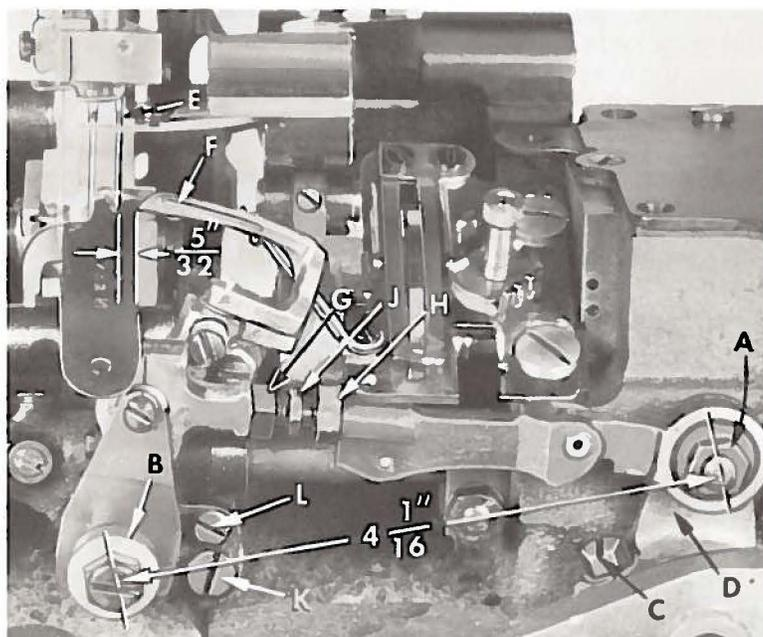

Fig. 6
With the looper at the extreme right end of its travel, check the location of the center line of the right looper connecting rod bearing, using gauge No. 21227 CX. Remove nut (A, Fig. 6) and place hole in gauge over threaded stud.
Insert a new set of needles, type and size as specified. Also insert front looper. The distance from the center of the right needle (E, Fig. 6) to the point of the front looper (F) should be $\frac{5}{32}$ inch, when the looper is at its farthest position to the right. Looper gauge No. 21225-5/32 can be used advantageously to check this setting. If adjustment is required, loosen nut (G, Fig. 6) (it has a left hand thread) and nut (H)
The left end of the gauge should locate against the right side of the looper rocker cone (B). If adjustment is necessary, loosen the clamp screw (C, Fig. 6) and reposition the looper drive lever (D) as required. Tighten clamp screw. If gauge is not available, setting can be checked with a scale. The distance between the center line of the looper rocker cone and the centerline of the looper lever stud should be $4 \frac{1}{16}$ inches (Fig. 6), when looper is at the extreme right end of its travel.